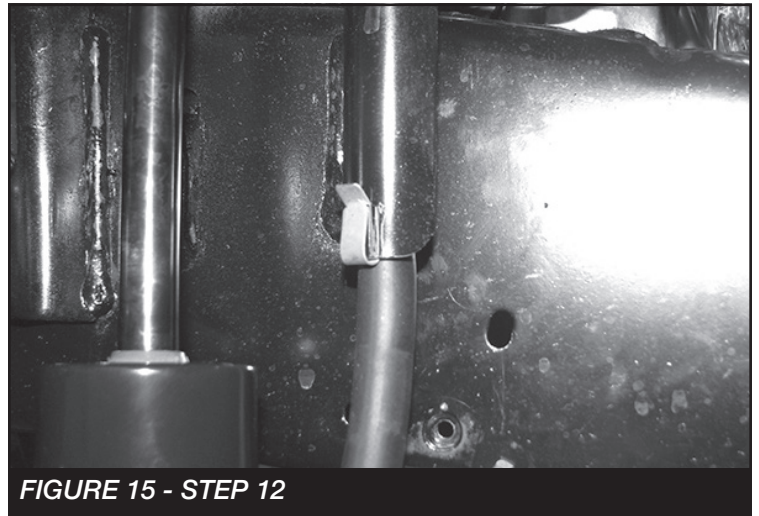
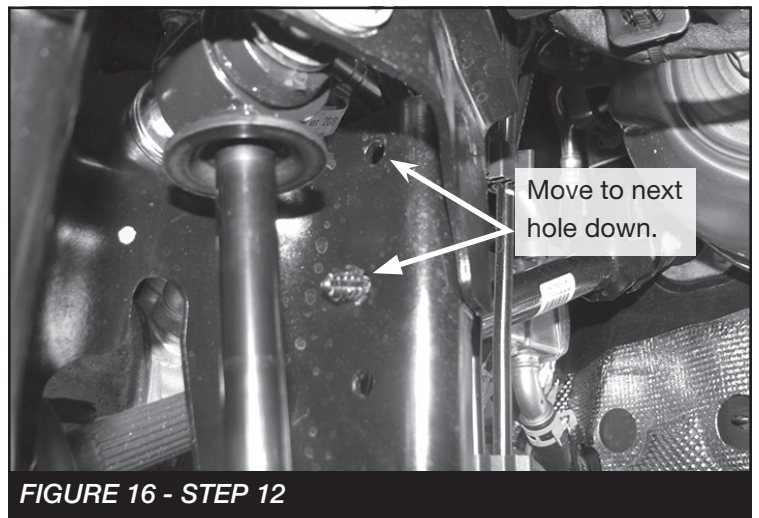

FIGURE 15 - STEP 12
FIGURE 16 - STEP 12
12. Reinstall the diff breather hose by moving the metal clip up the hose 2" **SEE FIGURE 15** and the christmas tree fastener into the next hole down. **SEE FIGURE 16.**